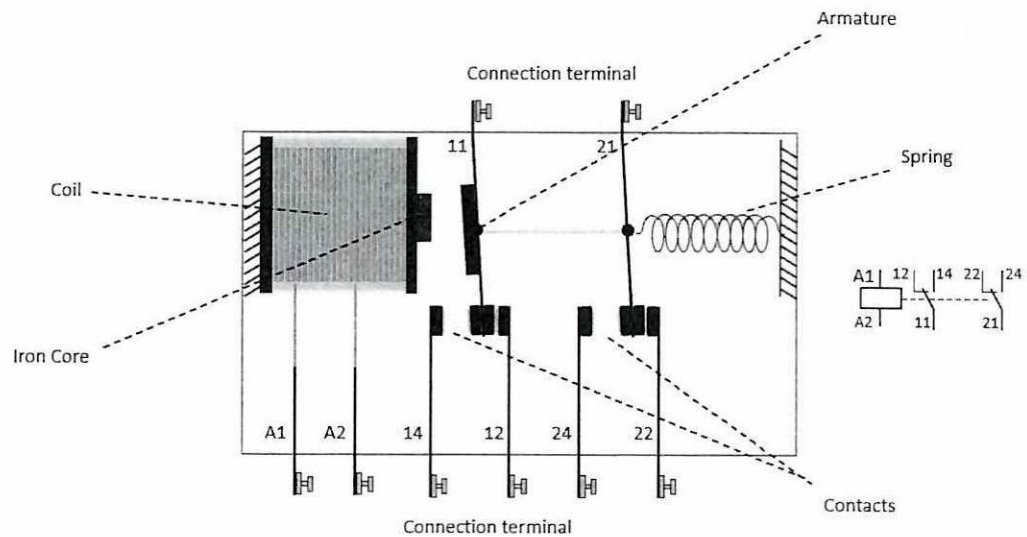

Figure Q4.1
- Q4.** (a) List **three (3)** components of a hydraulic system at the hydraulic power supply section. (3 marks)
- (c) Explain **four (4)** disadvantages of the microcontrollers, which are the reasons that microcontrollers are not suitable for being used in place of PLC applications. (8 marks)
- (d) Relay is one of the components which are commonly used in control circuits. **Figure Q4.1** illustrates a relay and its symbol.
By referring to the **Figure Q4.1**,